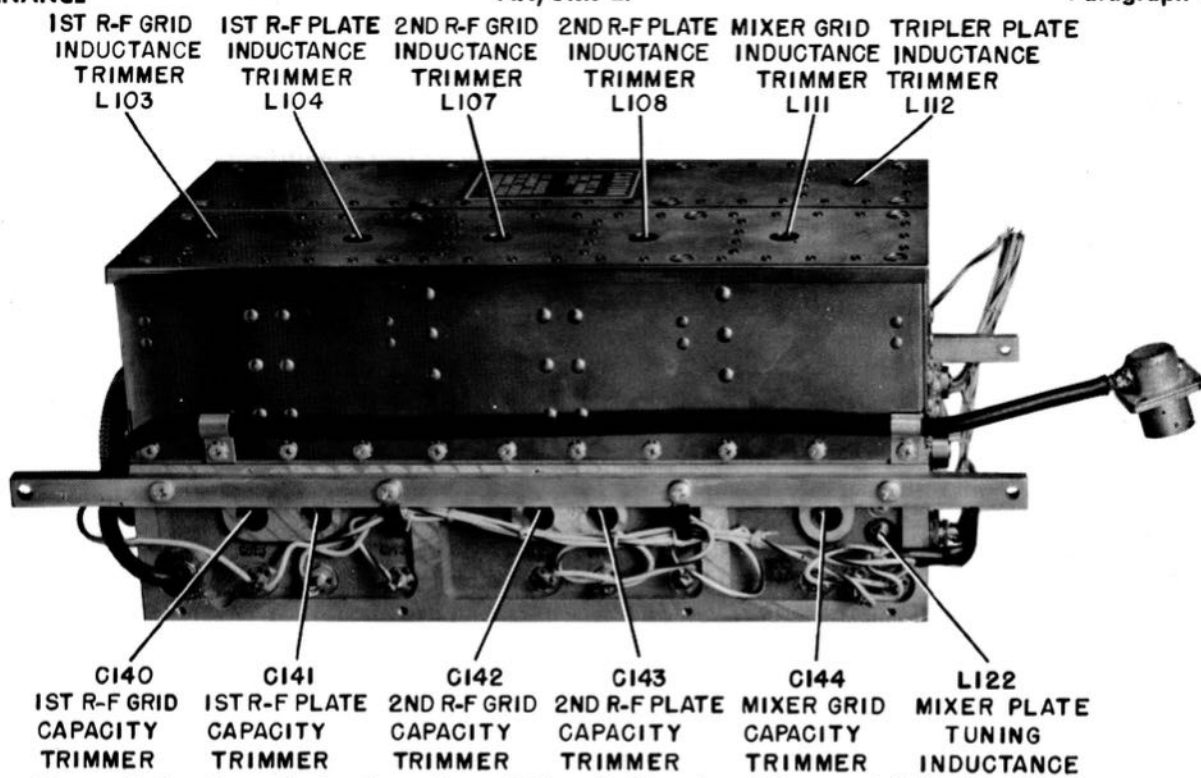

Figure 7-4. Preselector from Top of Chassis Showing Alignment Adjusting Screws
(8) Tune the mixer plate tuning inductance screw (L122, figure 7-4) for a maximum reading on the OUTPUT meter.
(3) Refer to figures 7-4, 7-8 and 7-9 for location of preselector tuning adjustments and test points. Place the probe of the electronic multimeter on the doubler grid test point (C122) and tune the oscillator inductance tuning screws (L114) for a maximum meter reading. Connect the return to the chassis of the receiver.